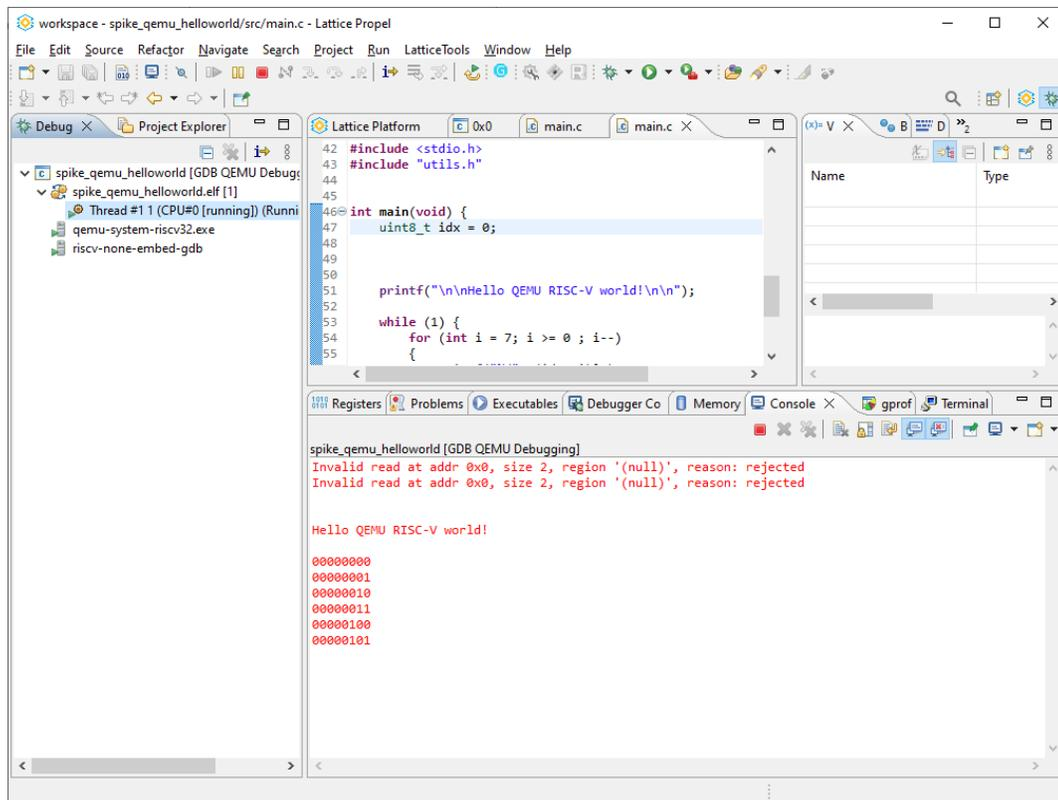

Figure 8.4. Running/Debugging Windows
5. Click the **Resume** icon  on the toolbar. The Console outputs running logs (Figure 8.4).